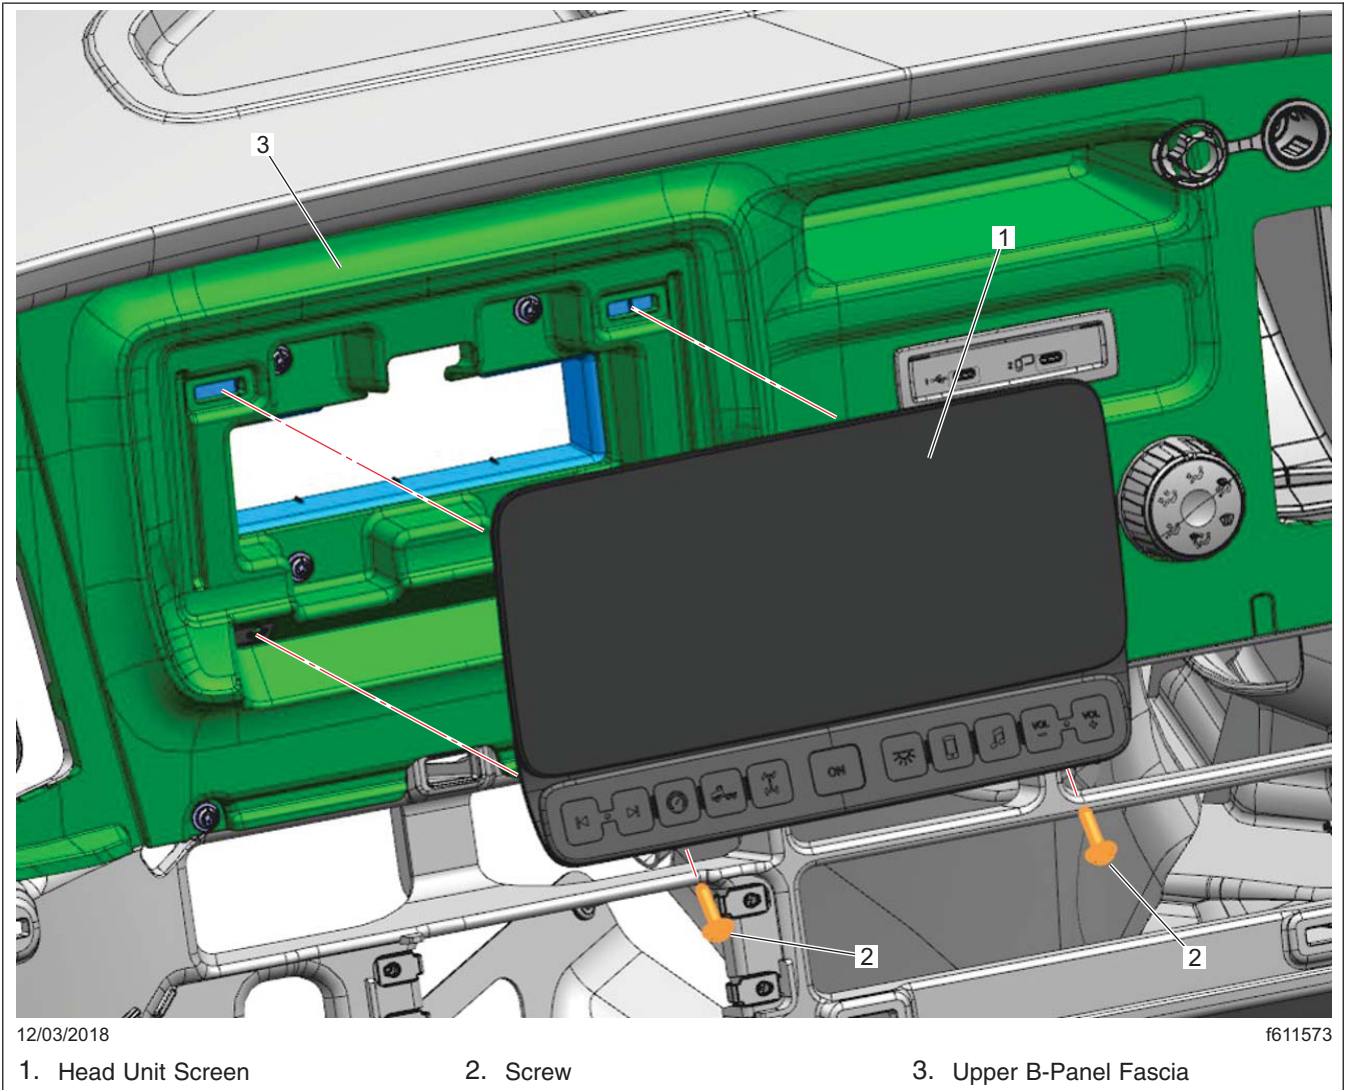

Fig. 2, Head Unit Screen Removal
5.2 Remove the head unit screen. See Fig. 2.